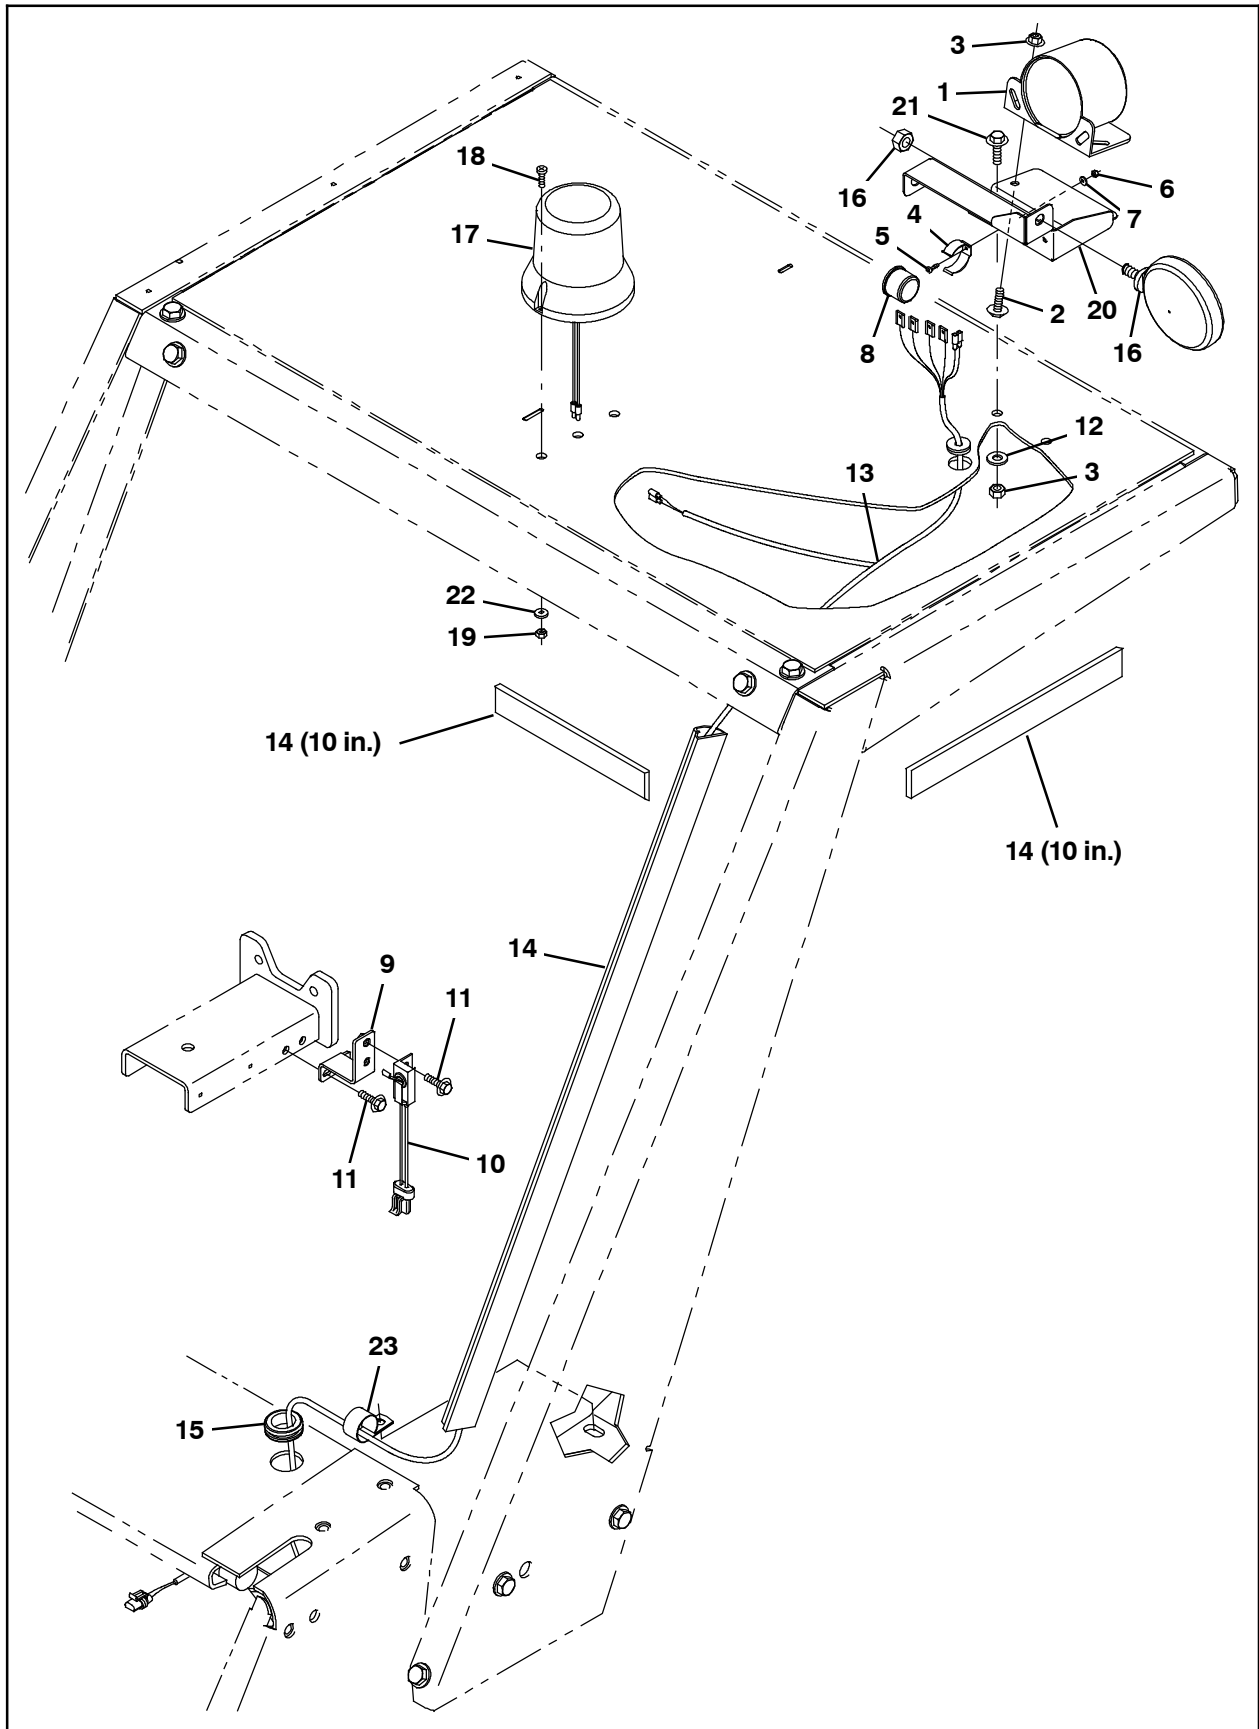

FIG. 15
12. Cut the vinyl duct (14) into one 28" section and two 10" sections.
13. Install the sections of vinyl duct (14) cut in the previous step onto the overhead guard. (Fig. 7 / Fig. 8 / Fig. 9 / Fig. 15)